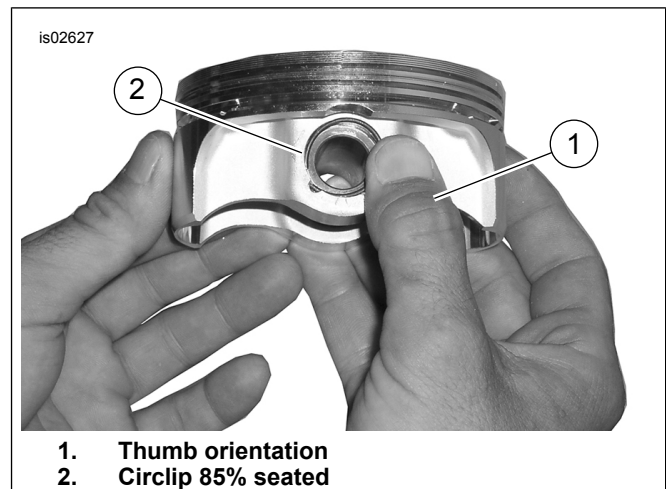

Figure 4. Install Circlip
- See Figure 4. Position your thumb (1) as shown. Press firmly until approximately 85% of the circlip (2) is seated in the groove.